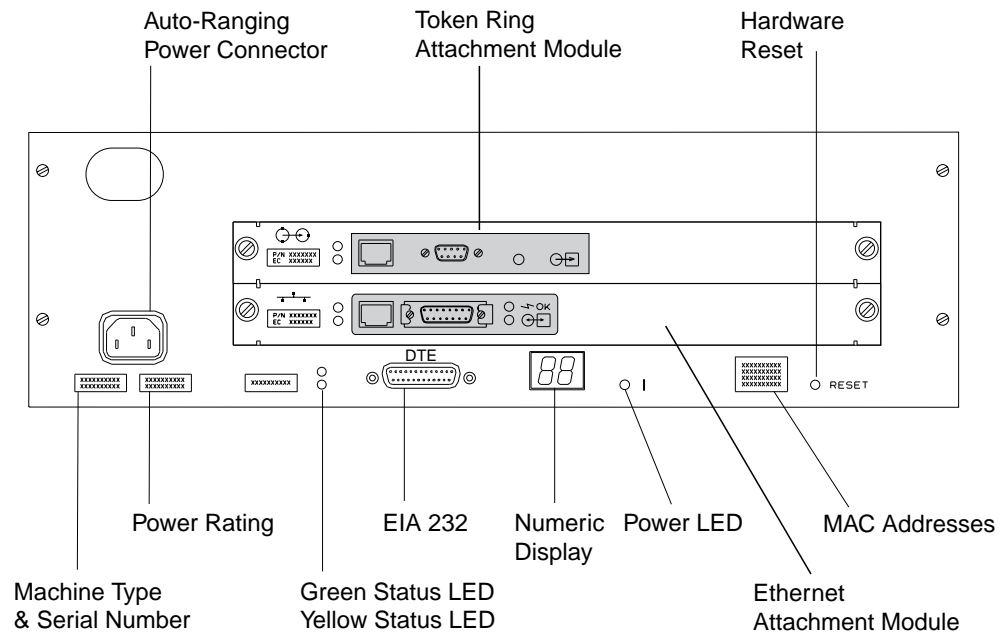

Figure 2-11. The Ethernet Bridge Front Panel
Notice the icon in the upper left-hand corner on the front. (See the matching symbol in the figures below.) Verify that the **token-ring module** is installed in the **upper slot** and the **Ethernet** in the **lower slot** of the ethernet bridge, refer to Figure 2-11 on page 2-10.
- 1) ____ Locate the first MAC address on top of the label on the front of the ethernet bridge (to the left of the reset button). See Figure 2-11 on page 2-10 for a view of the ethernet bridge front panel.
- c) ____ Locate the MAC addresses on the label on the front of the ethernet bridge (to the left of the reset button). See Figure 2-11 on page 2-10 for a view of the ethernet bridge front panel. **Enter the top two MAC addresses** recorded on the label. , then press **enter**.